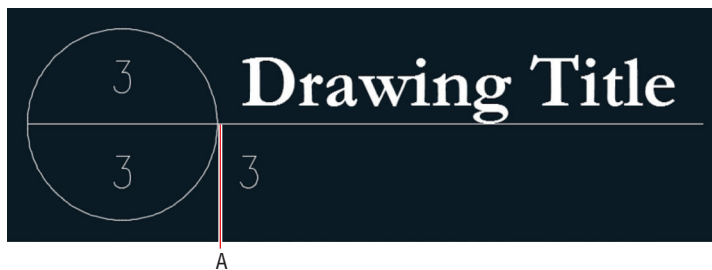

FIGURE 10.7 Creating Title text
7. Type **NEA** (for Nearest) and press Enter. Click point **A** in Figure 10.7 as the start point of the text. The command prompt now reads as follows:
8. Type 1'-6 (or 45 for metric) to specify the text height and press Enter. Press Enter again to accept a default rotation of 0 degrees (horizontal). Type **Drawing Title** (see Figure 10.7) and press Enter twice to end the TEXT command.